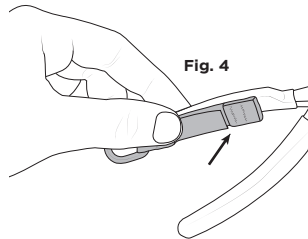

Fig. 4
- b. For the Web Tool Tails™, ensure the web catch points are facing up. [fig 4]